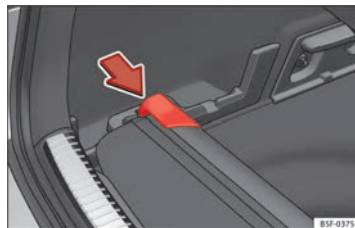

Fig. 99 In the luggage compartment: housing for storing the rear shelf.
- Press the head of the rear shelf in the direction of the arrow until it engages in its housing ⇒ Fig. 99.